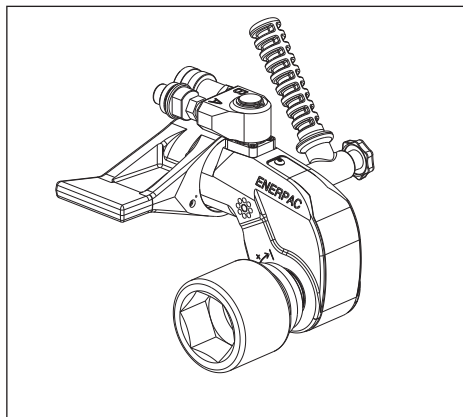

Fig. 16
4.3.4 Loosening a Nut or Bolt (Fig. 16 and 17)
- Position the foot (17) of the reaction arm (6) against a suitable reaction point (18). The reaction point will counteract the force caused by operating the tool.